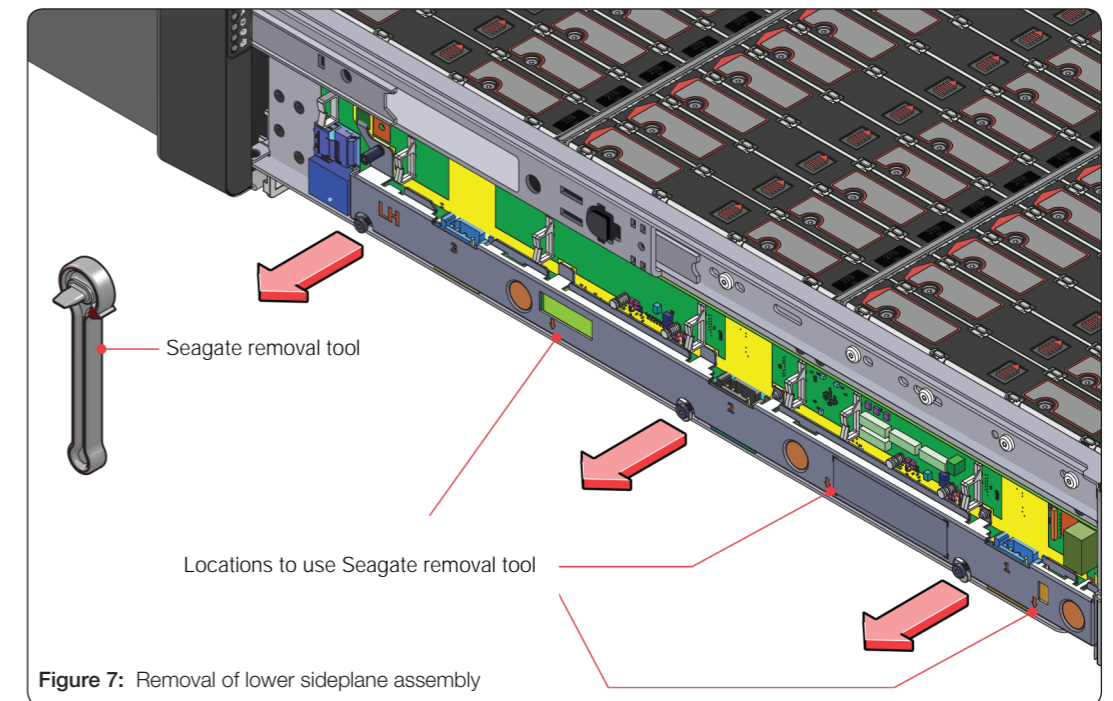

Figure 7: Removal of lower sideplane assembly
5. Use the Seagate removal tool at the highlighted locations (Figure 7) to lever the sideplane from the drawer by gently rocking front to back, but never top to bottom or by twisting the tool.